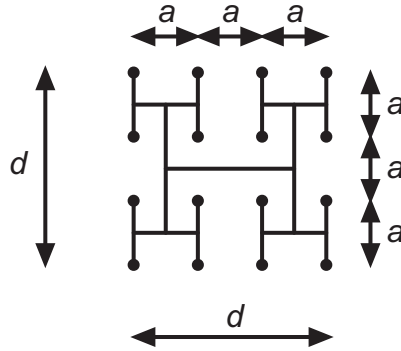

Figure 4. Square shaped H tree.
- a) Determine an expression of the total wire length of a square shaped H tree where the number of nodes are $N = 4^n$, n is an integer. Figure 4 shows the structure of a square shaped H tree consisting of 16 nodes.
- b) In several CMOS technologies it is possible to route in 45 degrees. Determine the minimum required wire length for 16 nodes located as in Figure 4.
- c) Determine a π -model of the H tree in Figure 4. Approximate each branch with a π -model of order one. All interconnections are of the same width w and the capacitance of an interconnection can be calculated as $C = k_1 l$ where k_1 is a constant and l is the length of the interconnection. R_{\square} is known. The capacitances of the clock inputs of the interconnected gates is assumed to be equal.